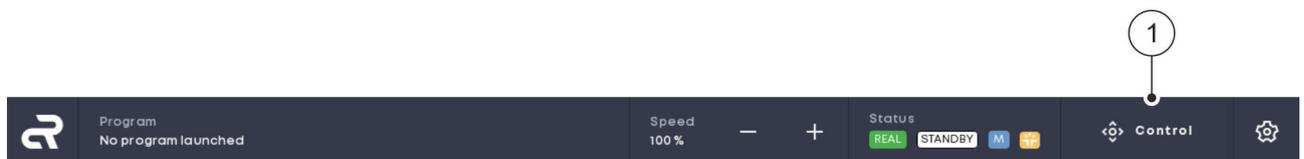

Fig. 31 Open the ‘Control’ menu
01. On the navigation bar, click the ‘Control’ button Fig. 31 / ①.